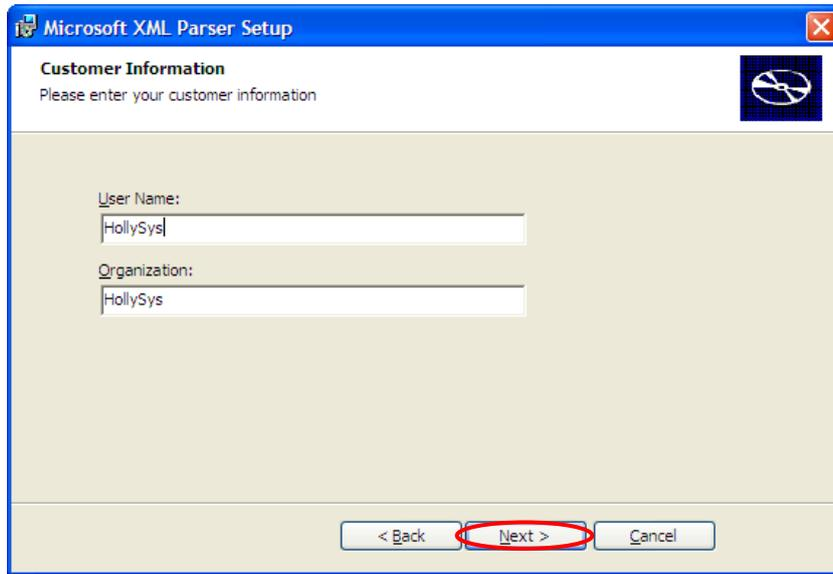

Figure 1-1-13 Installation Steps (13)
- Fill in User Name and Organization and click “Next” button, as shown in figure 1-1-13.